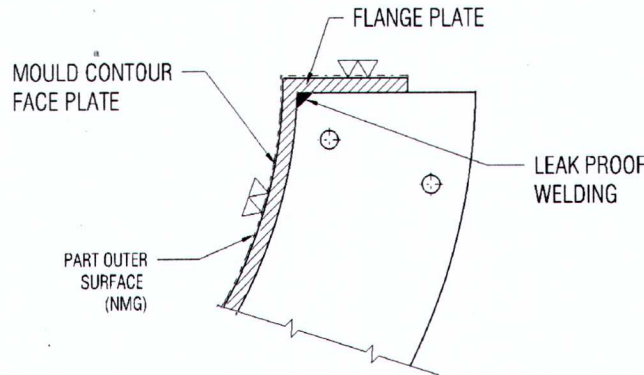

Fig.1: Typical leak proof welds between Faceplate and Flange plate
- 7) All flange plates should be welded together with the formed faceplate for the dimension stability of the mould without any vacuum leaks. For leak proof joints between the faceplate and flange plate typical grooves/chamfers shall be made and filled properly as shown in Fig.1.
- 10) Contour and reference planes as shown in Fig.1 should be machined to 2 triangle ($\nabla\nabla$) surface finish standard.